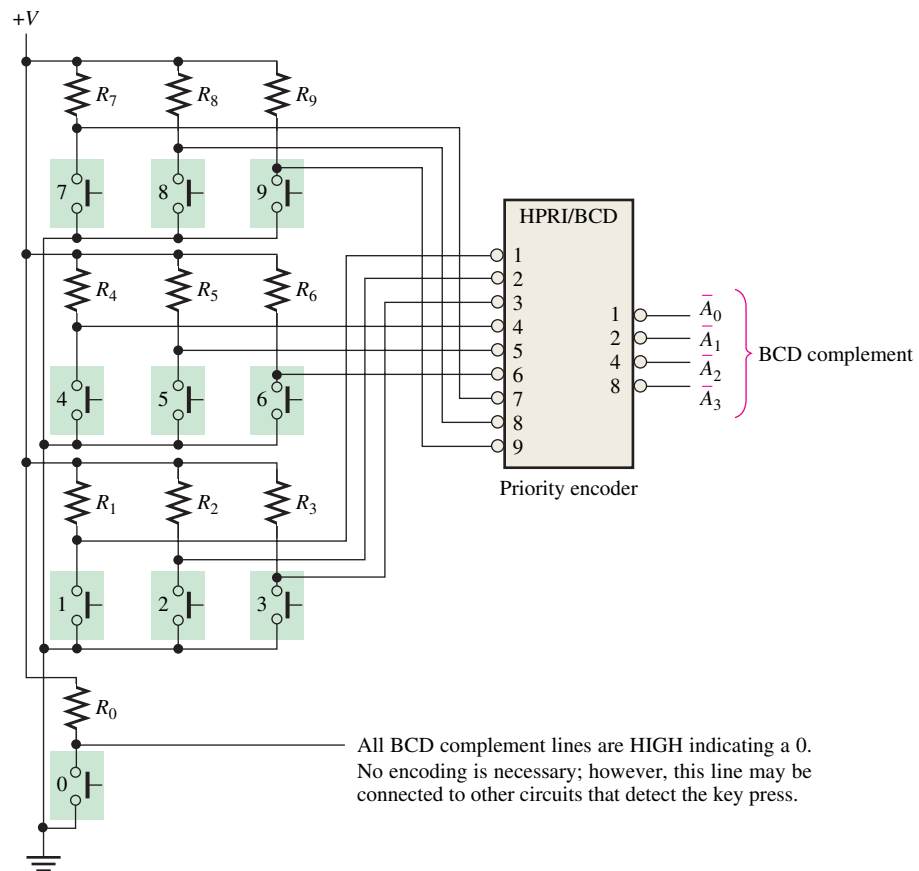

FIGURE 6–39 A simplified keyboard encoder.
The ten decimal digits on a numeric keypad must be encoded for processing by the logic circuitry. In this example, when one of the keys is pressed, the decimal digit is encoded to the corresponding BCD code. Figure 6–39 shows a simple keyboard encoder arrangement using a priority encoder. The keys are represented by ten push-button switches, each with a **pull-up resistor** to +V. The pull-up resistor ensures that the line is HIGH when a key is not depressed. When a key is depressed, the line is connected to ground, and a LOW is applied to the corresponding encoder input. The zero key is not connected because the BCD output represents zero when none of the other keys is depressed.
1. Suppose the HIGH levels are applied to the 2 input and the 9 input of the circuit in Figure 6–37.
- (c) What is the restriction on the encoder logic in Figure 6–37?
2. (a) What is the $\bar{A}_3 \bar{A}_2 \bar{A}_1 \bar{A}_0$ output when LOWs are applied to pins 1 and 5 of the 74HC147 in Figure 6–38?
The basic process for Gray-binary conversions was covered in Chapter 2. Exclusive-OR gates can be used for these conversions. Programmable logic devices (PLDs) can also be programmed for these code conversions. Figure 6–40 shows a 4-bit binary-to-Gray code converter, and Figure 6–41 illustrates a 4-bit Gray-to-binary converter.